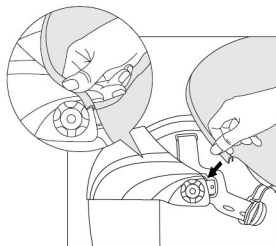

fig.6a
Step 1 : Insert the U-shaped sealing layering into the edge of face shield shell. Use the thumb to press the edge of sealing layering to make it fix into the face shield shell (See fig.6a).